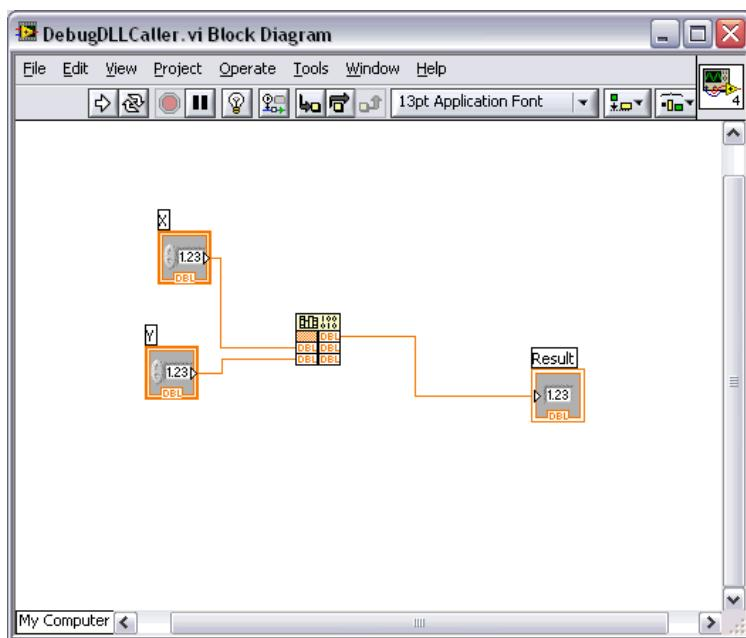

Figure 9. DebugDLLCaller.vi Block Diagram
14. Save the program as `DebugDllCaller.vi`. When you finish, the block diagram should look like Figure 9.